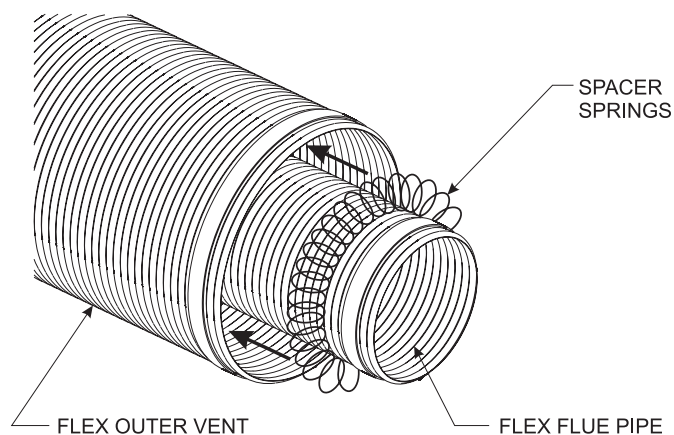

Figure 60
2. Check to see that the vent spacer springs are located around the flue vent at 8 inch intervals along its length. See Figures 60 and 61. If not, stretch the spacer springs to about 15 inches long and wrap them around the flue, then interlock the ends of each spring. Maintain equal distance between spring spacers.